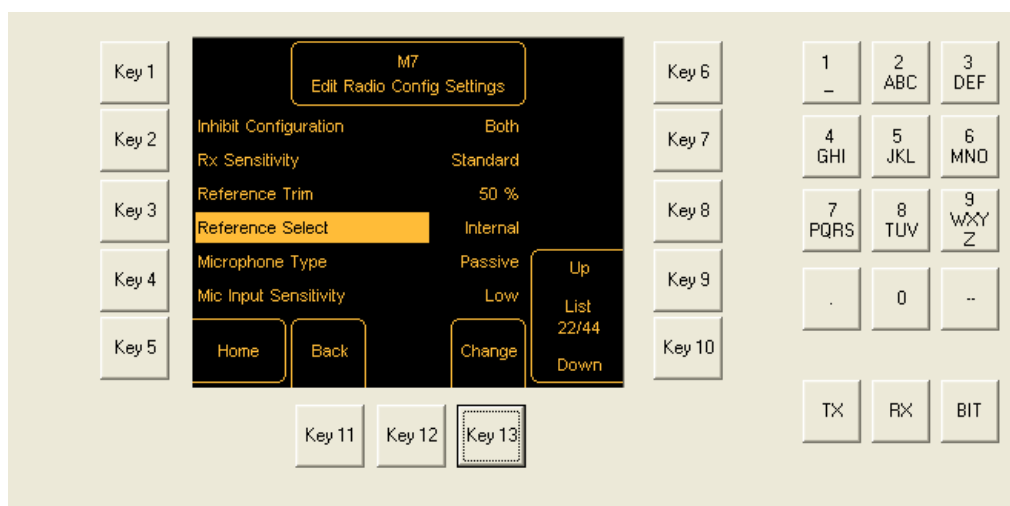

Fig 5-2 Internal Frequency Reference Selected
- (2) Switch on the radio and from the display's Home page select *Key 8 – Radio Config*.
- (3) Using *Key 9* and *Key 10* to scroll up and down the configuration list, highlight *Reference Select* as shown in Fig 5-2. Ensure *Internal* is selected. If *external* is selected, press *Key 13 – Change*; then press *Key 9* or *Key 10* to display *External*; finally, press *Key 13 – Store*.